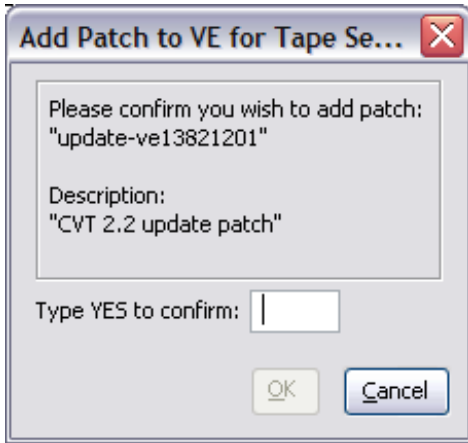

Figure-9
6. When presented with the confirmation window, type “YES” to confirm (Figure-9)